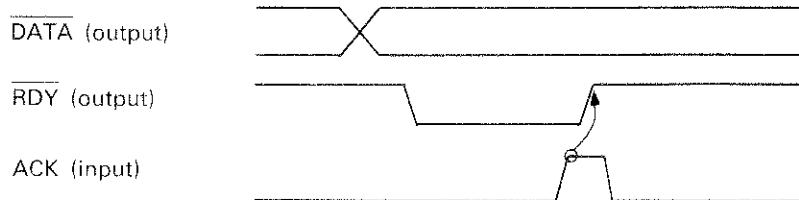

Fig. 5.3.4.A Synchronous Output Timing
3.5.2.A Synchronous output timing (Type A I/O card) Fig. 5.3.4.A shows the timing involved in outputting data using the command “OT.”